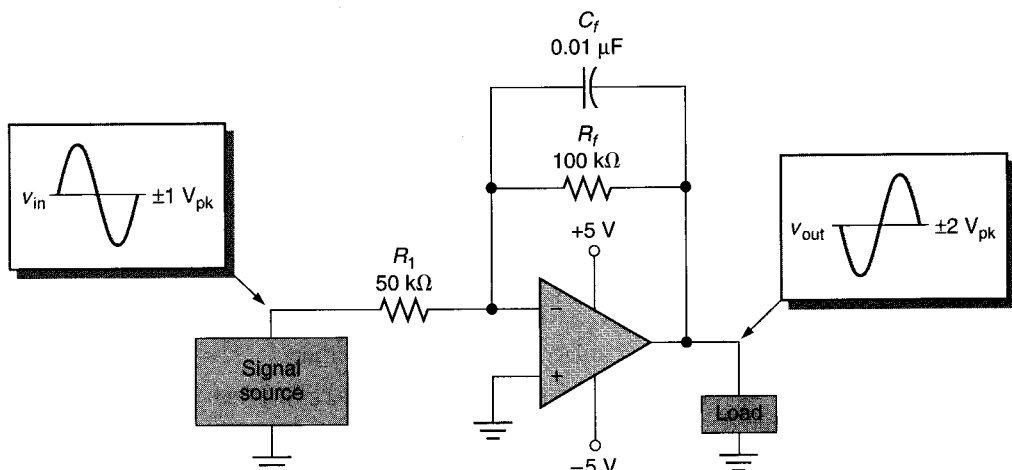

FIGURE 16.44
22. The circuit shown in Figure 16.44 has the readings indicated. Determine the possible cause(s) of the problem.